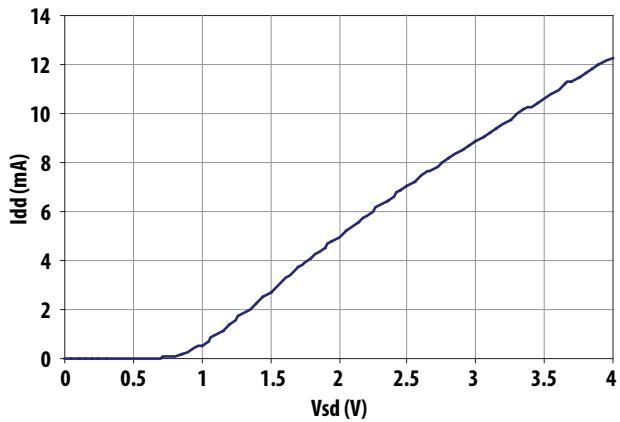

Figure 9. I_{dd} vs V_{sd} for $V_{dd} = 2.7$ V, $R_1 = 8.2$ kOhm
- Figs 9, 10 and 11 show the different bias currents that can be obtained by varying V_{sd} and R_1 .